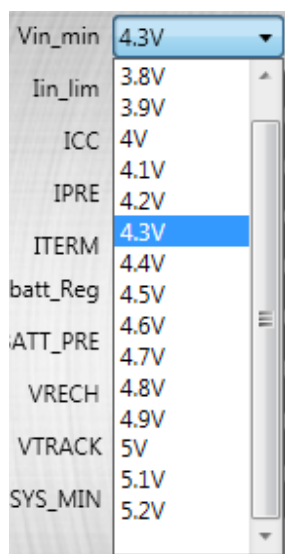

Figure 6: Setting the Input Voltage Regulation Threshold
- The default value is 4.3V. Set the voltage regulation threshold according to the V_{BATT_REG} setting. For example, if V_{BATT_REG} is set to 4.35V, the voltage regulation threshold value is recommended to be set to 4.6V or greater (see Figure 6).